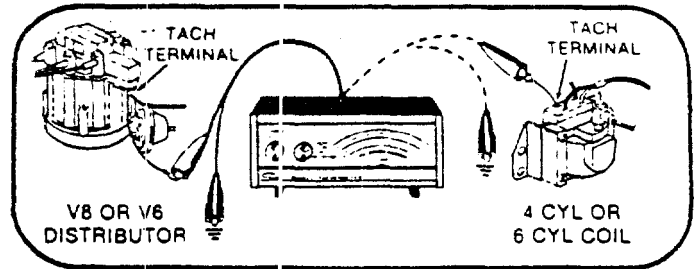

FIGURE 2 - HEI IGNITION SYSTEMS
(1) The negative (-) terminal of the coil on FORD vehicles is marked DEC.
(2) On GENERAL MOTORS vehicles using the High Energy ignition (HEI) system, instead of connecting the RED test clip to the negative (-) terminal of the coil, connect this RED test clip to the tach terminal using the HEI terminal adapter clip provided with the tester. The tach terminal is located on the distributor for V8 and V6 engines while it is located on the coil for 4 cylinder or L6 engines (See Figure 2).
(3) On vehicles with a POSITIVE GROUND electrical system, connect the BLACK test clip to the negative (-) terminal of the coil and the RED test clip to the engine ground.